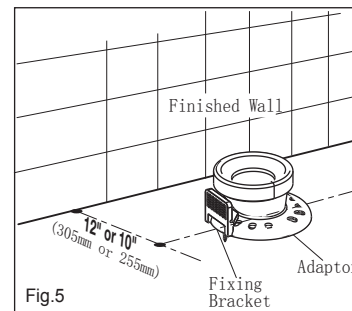

Fig.5
3. Place fixing bracket onto "T" bolt and secure it by hand tightening nuts and washers onto the "T" bolts. Apply an additional turn for final installation as detailed in Fig.5.